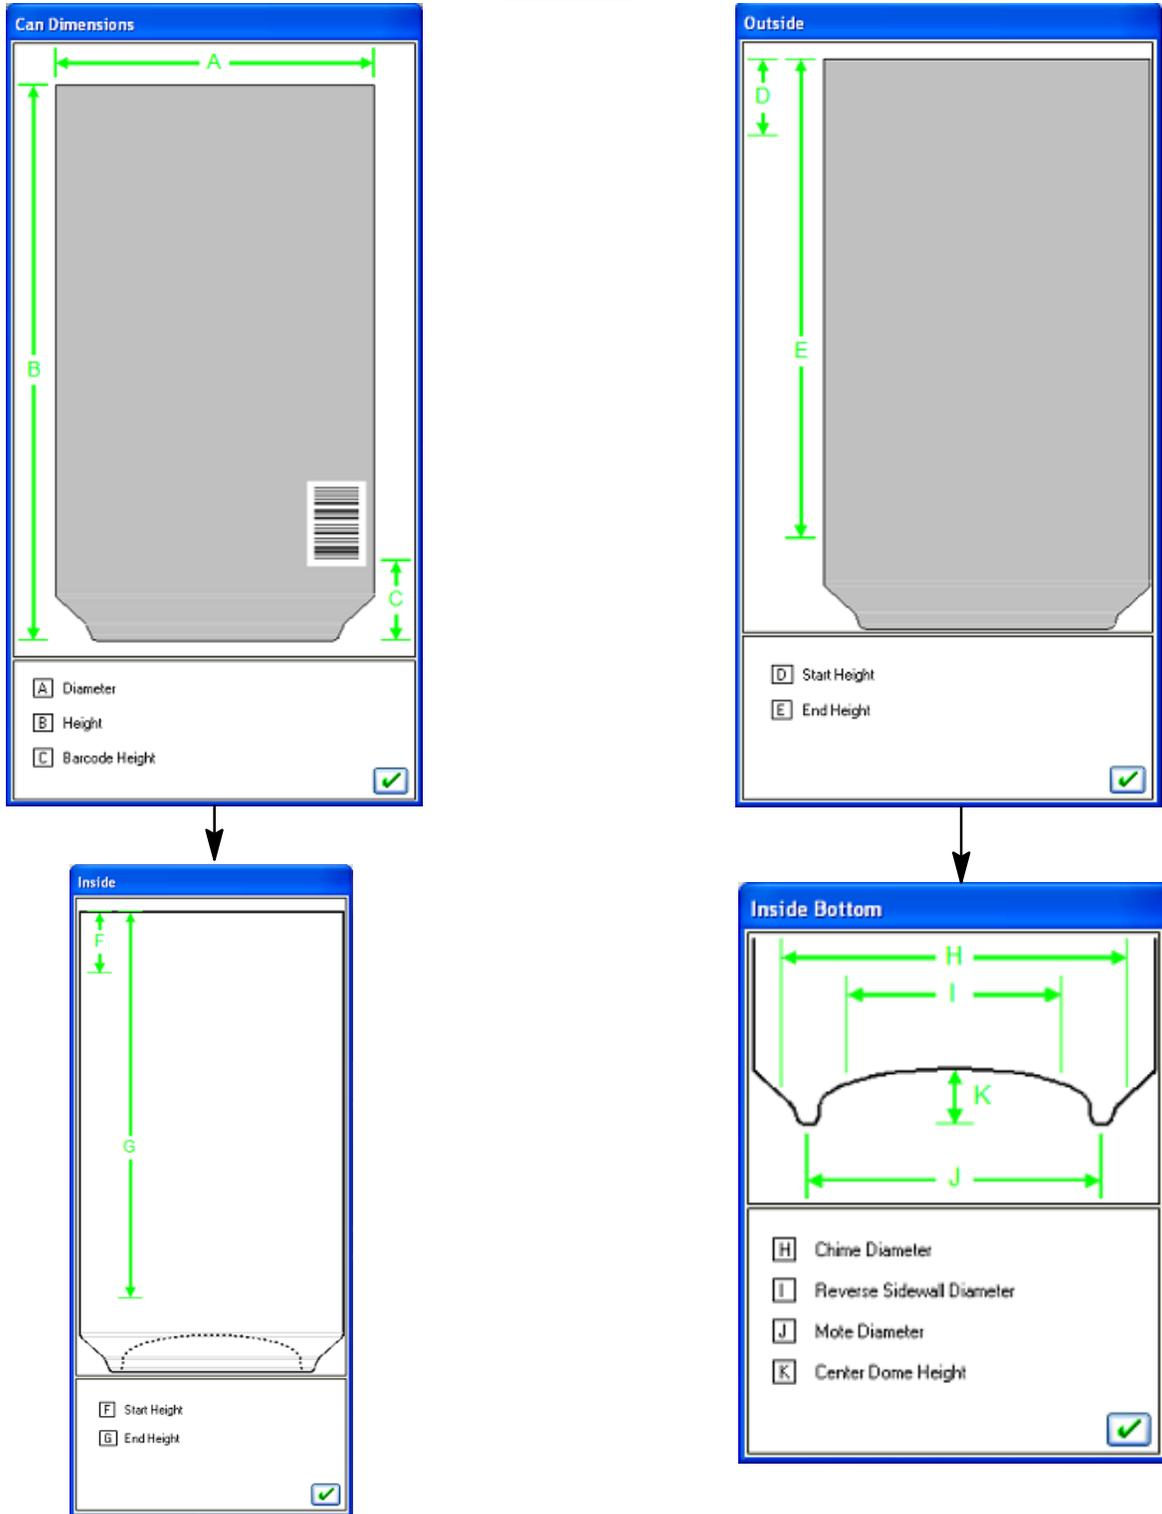

Figure 15 Can Dimension Guide
- 5. Enter specifications for the particular coating surface by toggling the tabs *Outside*, *Inside*, and *Inside Bottom*. Complete the fields under the appropriate tabs and probes. See Figure 15 for a guide to can measurements.
NOTE: By pressing the information icon, the user can access a guide that aids in measuring can dimensions. See Figure 15 for can dimension guides.